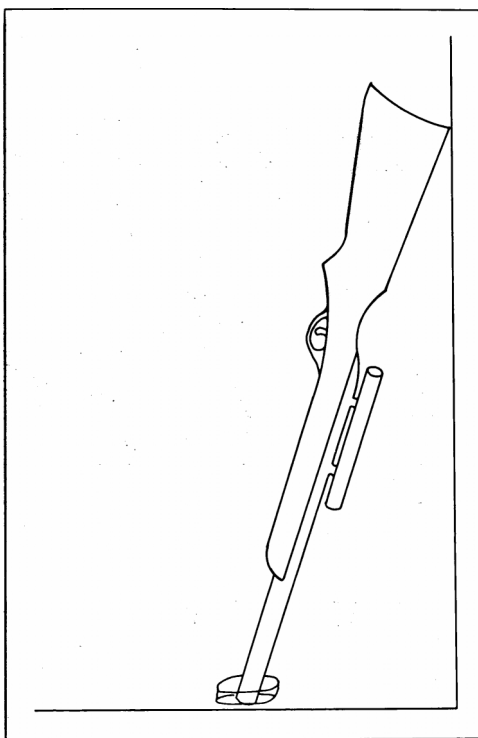

Fig. 5-2. Store long guns muzzle-down.
It is time to have a talk with your wife, because one of the best places to store a firearm is in the closet. It may not be the most secure place to keep a gun, but it is a good place to keep a gun from getting bumped. It’s usually dry, and out of the way. A rifle or shotgun should be placed in a corner of the closet, muzzle down, resting in a plastic tray to catch any preservative that might eventually run off (Fig. 5-2).
- *Do* store guns muzzle down (Fig. 5-2).